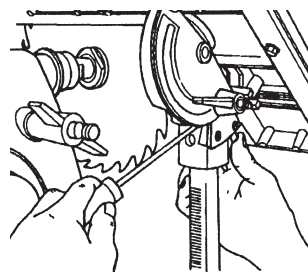

Figure 40
8. To adjust the 45° Right Stop, see Figure 40. Set the Table to 45° Right. Then use the Combination Square to set the tilt of the Table to precisely 45° Right. Use a Small Screwdriver to back out the 0° stop 2-3 turns. Depress the Plunger under the Table Tilt Indicator up toward the Front Trunnion, and hold it there with your finger. Slowly turn the 45° Stop in until you feel it touch the Plunger.